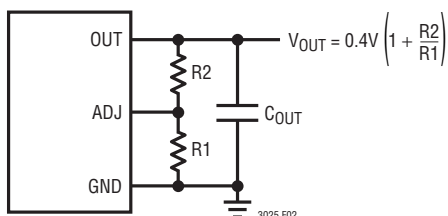

Figure 2. Programming the LTC3025
**ADJ (Pin 5):** Adjust Input. This is the input to the error amplifier. The ADJ pin reference voltage is 0.4V referenced to ground. The output voltage range is 0.4V to 3.6V and is typically set by connecting ADJ to a resistor divider from OUT to GND. See Figure 2.
The output voltage is set by the ratio of two external resistors as shown in Figure 2. The device servos the output to maintain the ADJ pin voltage at 0.4V (referenced to ground). Thus the current in R1 is equal to  $0.4\text{V}/R1$ . For good transient response, stability, and accuracy, the current in R1 should be at least 8 $\mu\text{A}$ , thus the value of R1 should be no greater than 50k. The current in R2 is the current in R1 plus the ADJ pin bias current. Since the ADJ pin bias current is typically <10nA, it can be ignored in the output voltage calculation. The output voltage can be calculated
using the formula in Figure 2. Note that in shutdown the output is turned off and the divider current will be zero once  $C_{OUT}$  is discharged.